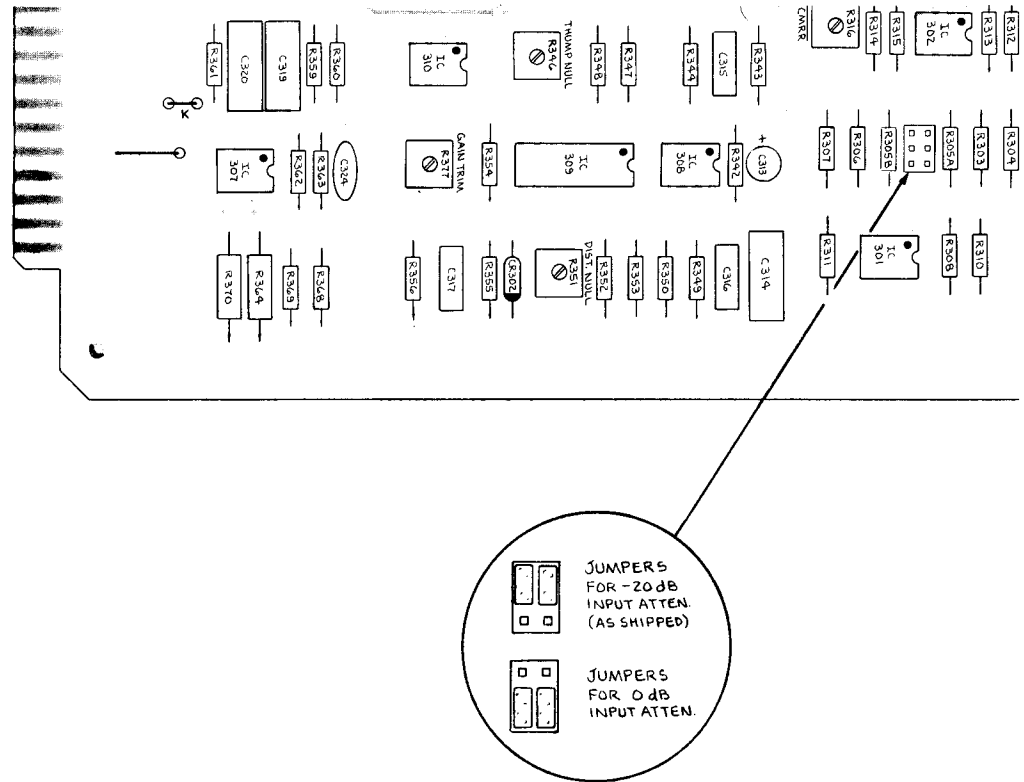

Fig. 3-3: Cards #3/#4 Input Attenuation Jumpers
3) **Input Attenuator Pads:** OPTIMOD-FM is shipped with 20dB pads ahead of the input buffer amplifiers. These are located on Card #3 (left channel) and Card #4 (right channel), and are suited for nominal input levels from -10 to +10dBm. If lower input levels from -30 to -10dBm are present, the pads must be defeated. To do this, remove Card #3. Reposition the jumper straps according to Fig. 3-3. Repeat for Card #4, and replace both cards.